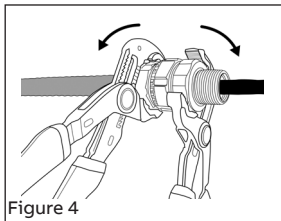

Figure 4
- Tighten the gland nut until you obtain an appropriate seal or to the maximum torque (see table) (Figure 4). The bushing and collar ring should seal evenly around the cable's outer jacket and flush with gland nut face. Ensure the cable remains centered to obtain an optimal seal.